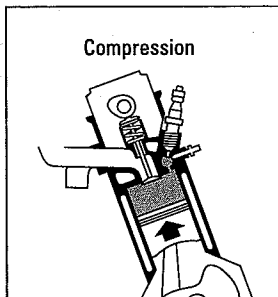

Figure 7-8:
- ✓ **Stroke 2 — Compression stroke (see Figure 7-8):** The intake and exhaust valves are closed as the piston moves upward and places the air under extreme pressure. As the pressure increases, the air heats up to the *flash point* (the point at which it causes the fuel to undergo spontaneous combustion). Just before that point is reached, fuel injectors spray fuel into the combustion chambers at the precise instant when ignition is to take place.